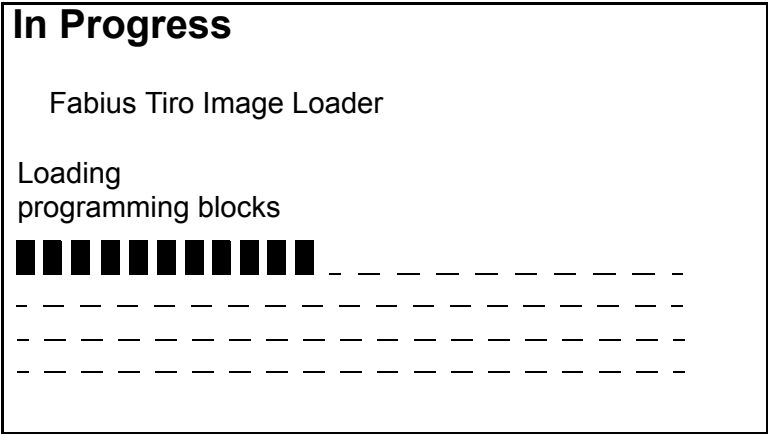
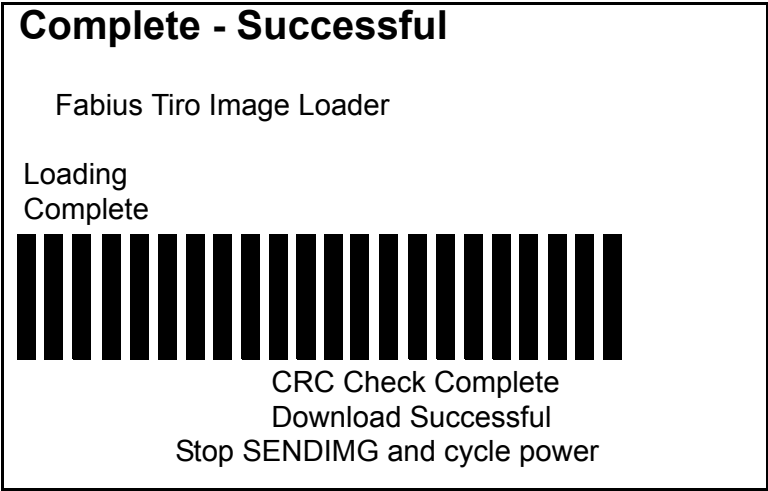
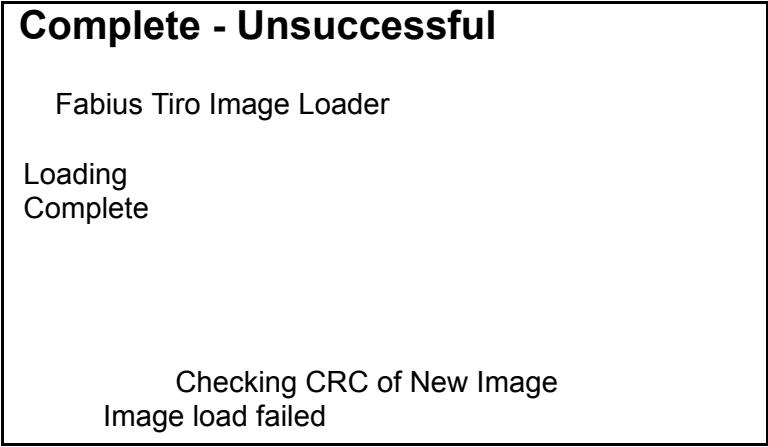

FIGURE 2. Image Loader Screen
FIGURE 3. Image Loader Successful
FIGURE 4. Image Loader Unsuccessful
7. As the software is downloading, programming blocks will appear on the machine display. See FIGURE 2. When the download is complete and successful, the display will appear as shown in FIGURE 3. If the download is unsuccessful, the display will appear as shown in FIGURE 4.